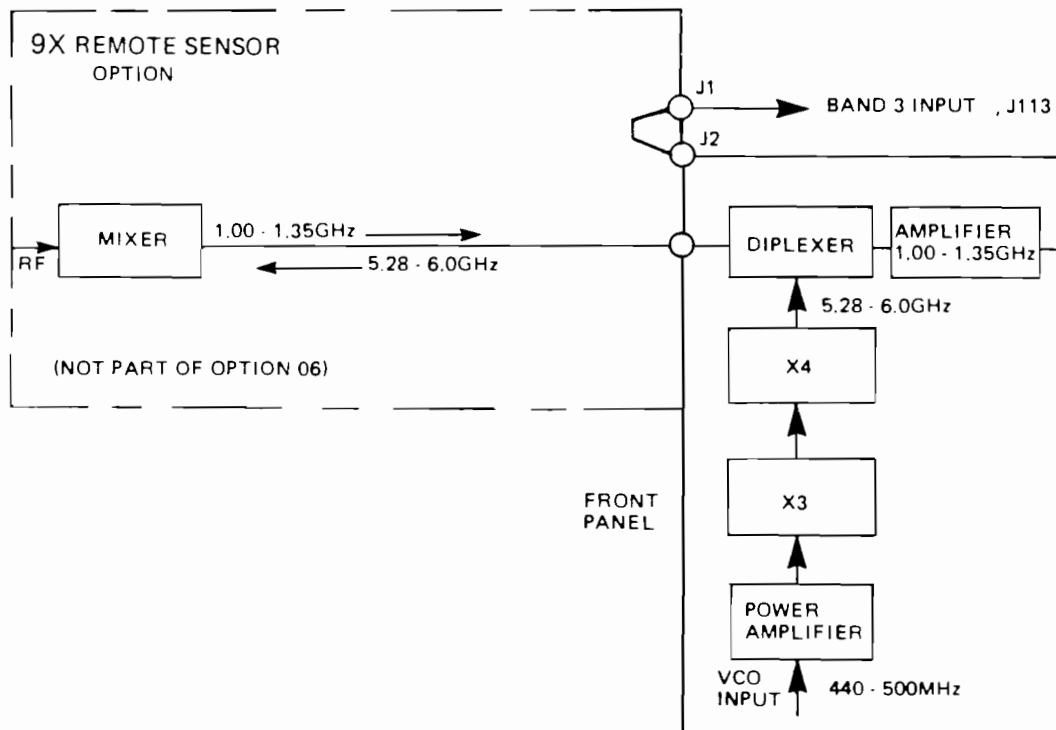

Figure 06-1. Frequency Extension Block Diagram
a multiplier chain increases the VCO output frequency to the 5.28–6 GHz range, which is referenced to the time base. See Figure 06-1. This signal provides the local oscillator (LO) power, which is transmitted to the remote sensor, an external harmonic mixer. When the input frequency and harmonics of the LO, (generated in the mixer) combine, a first IF is generated in the range of 1.00–1.35 GHz.